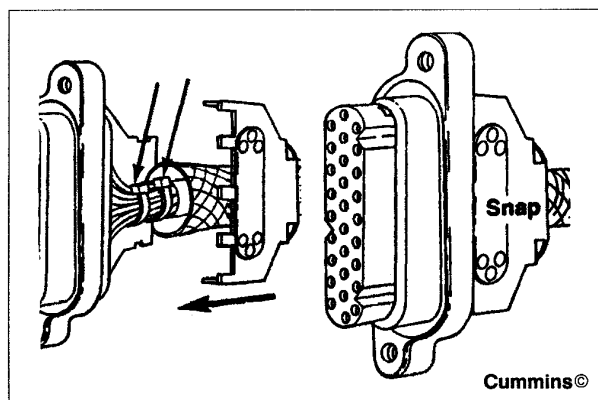

Figure 76 Snap Locking Tabs on Cover into Place
11. Install new plastic wire ties, Cummins Part No. 3822925, under the cover. Install the cover on the connector body. Insert the tabs in the slots. Snap the locking tabs on the cover into place (Figure 76).